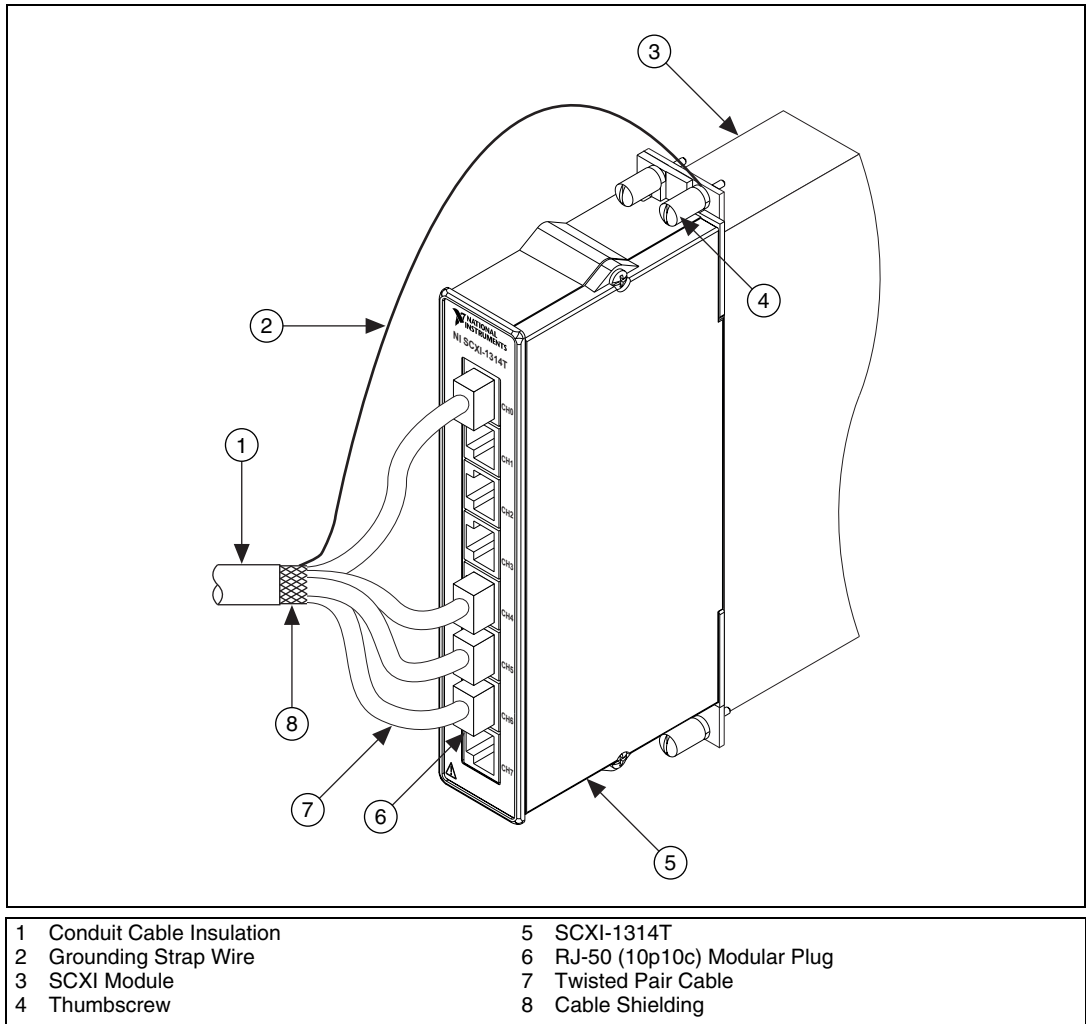

Figure 11. Connect the Shielding to the SCXI Module Using the Thumbscrew
- Connect the conduit cable shielding to the metal thumbscrew of the SCXI module with a grounding wire as shown in Figure 11.